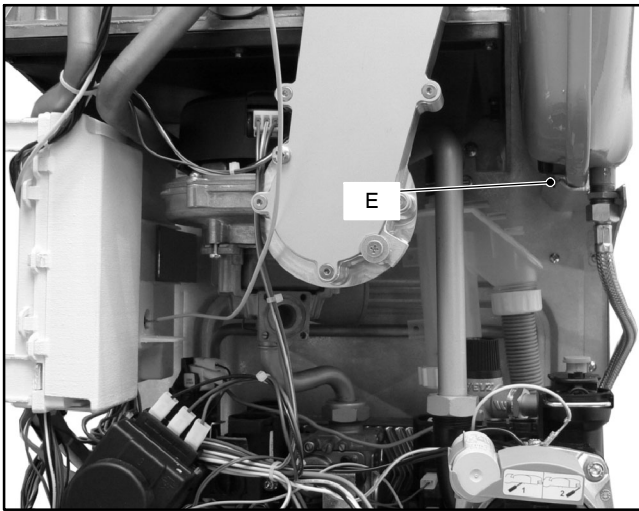

Fig. 13.1
- 2 Remove the protective cap *E* (Fig. 13.1) from the valve on the top of the expansion vessel and connect a suitable air pressure gauge.